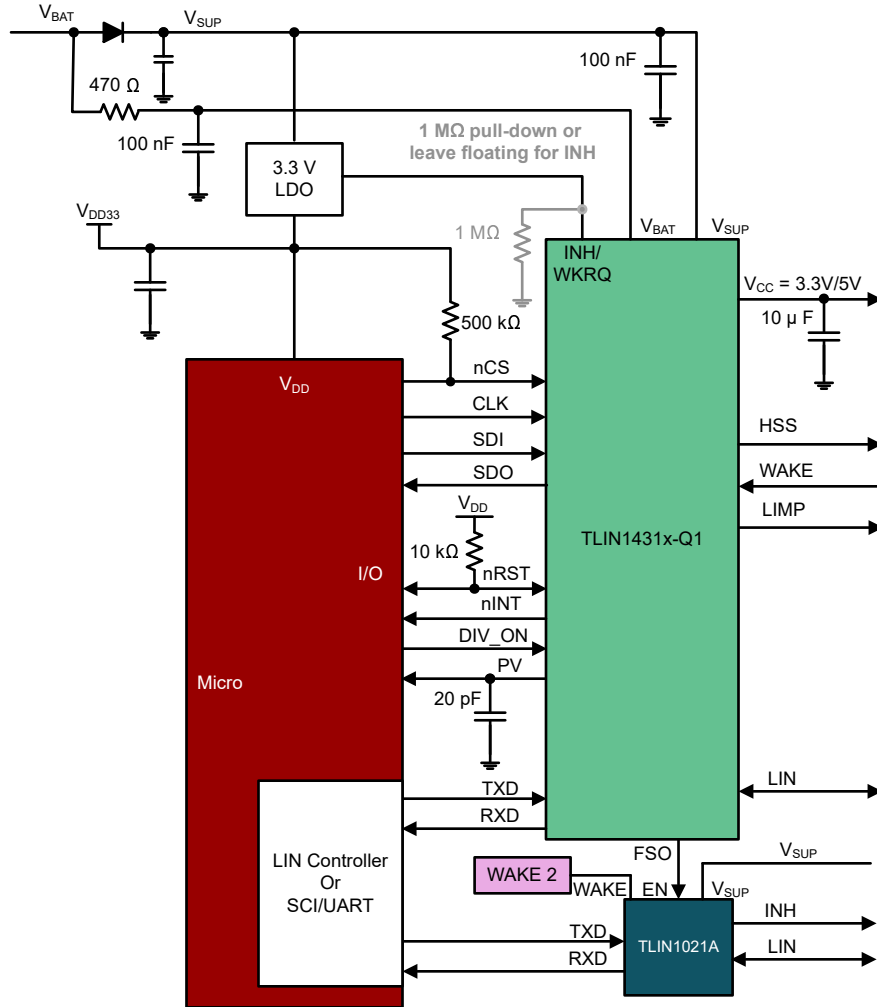

Figure 8-20. Channel Expansion: Enhanced LIN Transceiver
- Two LIN transceivers with two WAKE and INH capability by using an enhanced eight pin LIN transceiver, see Figure 8-20